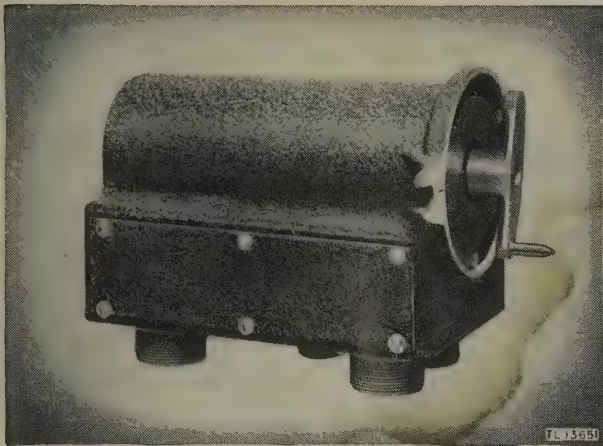

Figure 7. Goniometer MC-412-A.
## 6. Goniometer MC-412-A (fig. 7)
- (3) *Goniometer MC-412-A* (fig. 16). The early models of Goniometer MC-412-A have a drive arrangement different from the later models (fig. 7), and the rear bearing housing and locknut of the earlier models are not used in the later models.